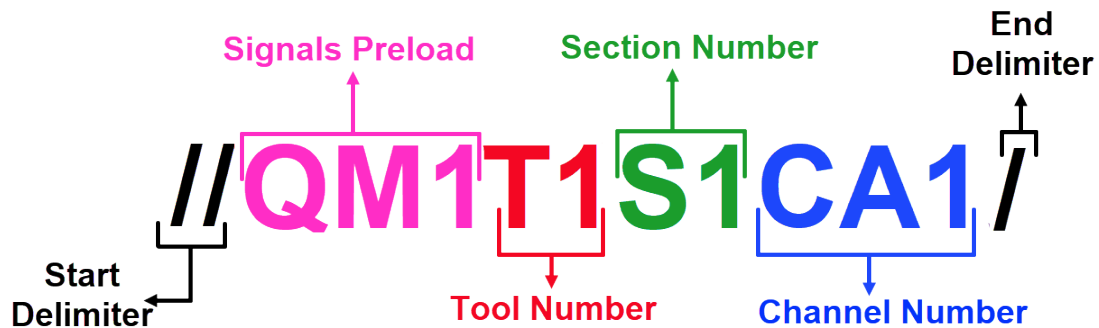

Figure 14-14: RS232 Monitoring Preload Command String Format Example
- **RS232 Command:** Passing a command string in the same format as Figure 14-14